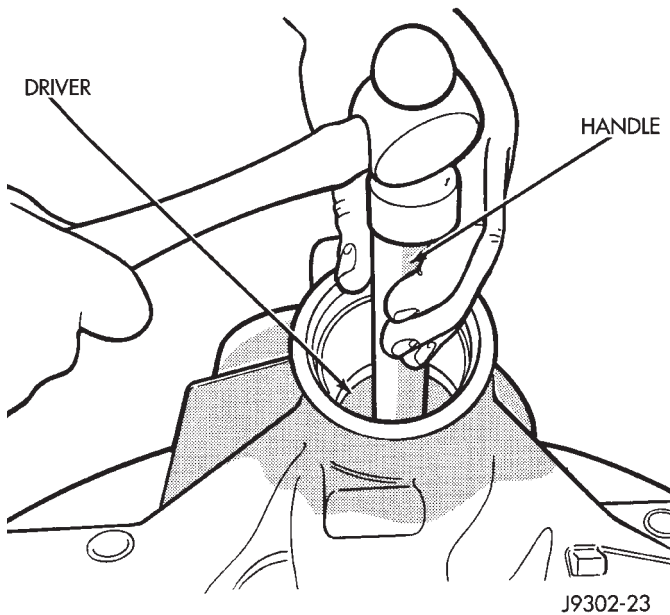

Fig. 36 Rear Bearing Cup Removal
(7) Remove the rear bearing cup from housing (Fig. 36). Use Remover D-149 and Handle C-4171.